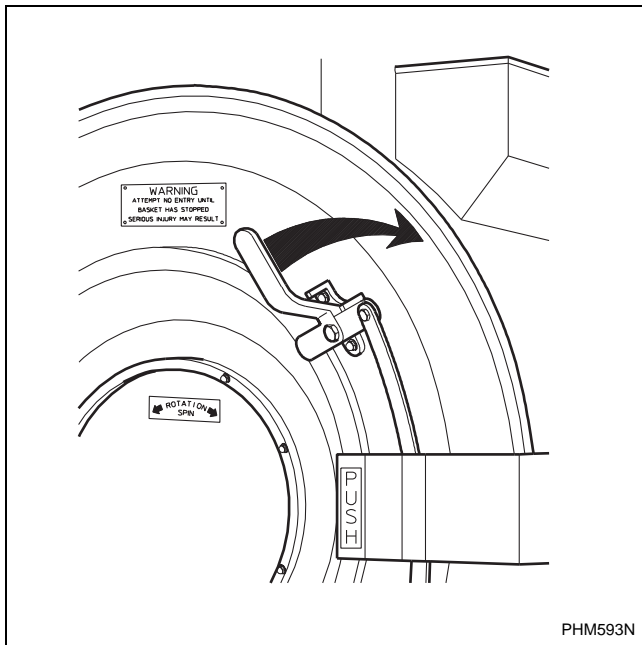

Figure 15
4. Turn the door handle clockwise and swing the door left to open it. The door must be opened within 5 seconds of pressing the door unlock button. Refer to *Figure 15*.